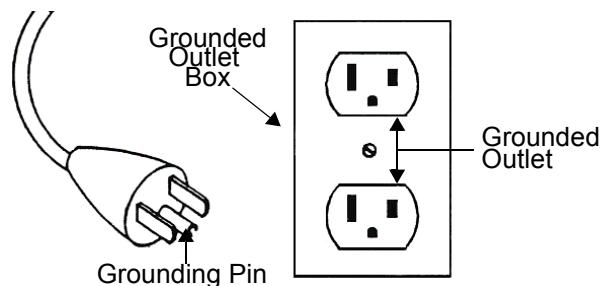

Figure 4 Grounding Plug and Outlet
- When this product is configured for use on a nominal 120 V circuit, it must be used with a grounding plug that looks like the plug illustrated in Figure 4.